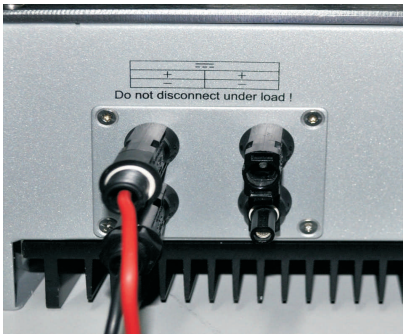

Fig 4.2
- The diagram drawing of DC side is shown as Fig 4.2, note that the connectors are in paired (male and female connectors). The connectors for PV arrays and inverters are MC (multi-connector) connectors;